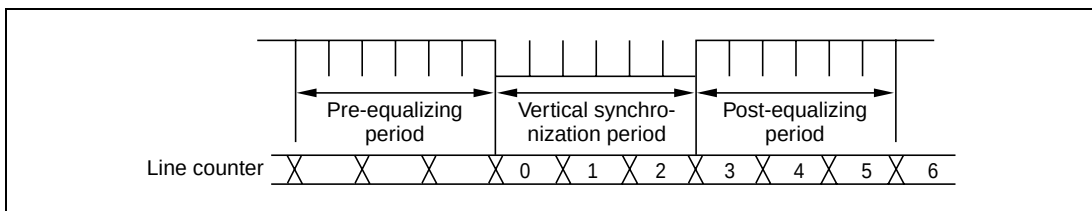

**Figure 29.10 Base Point for Vertical Display Start Positions**
The base point for display start positions is shown in figure 29.10.
**Bits 8 to 0—Vertical Display Start Position Specification Bits (VP8 to VP0):** Set the display start position in the vertical direction. The vertical display start position can be set in single scanning line units. The base point of the display start position is the vertical sync signal. Refer to the base point for the vertical display start position in figure 29.10.